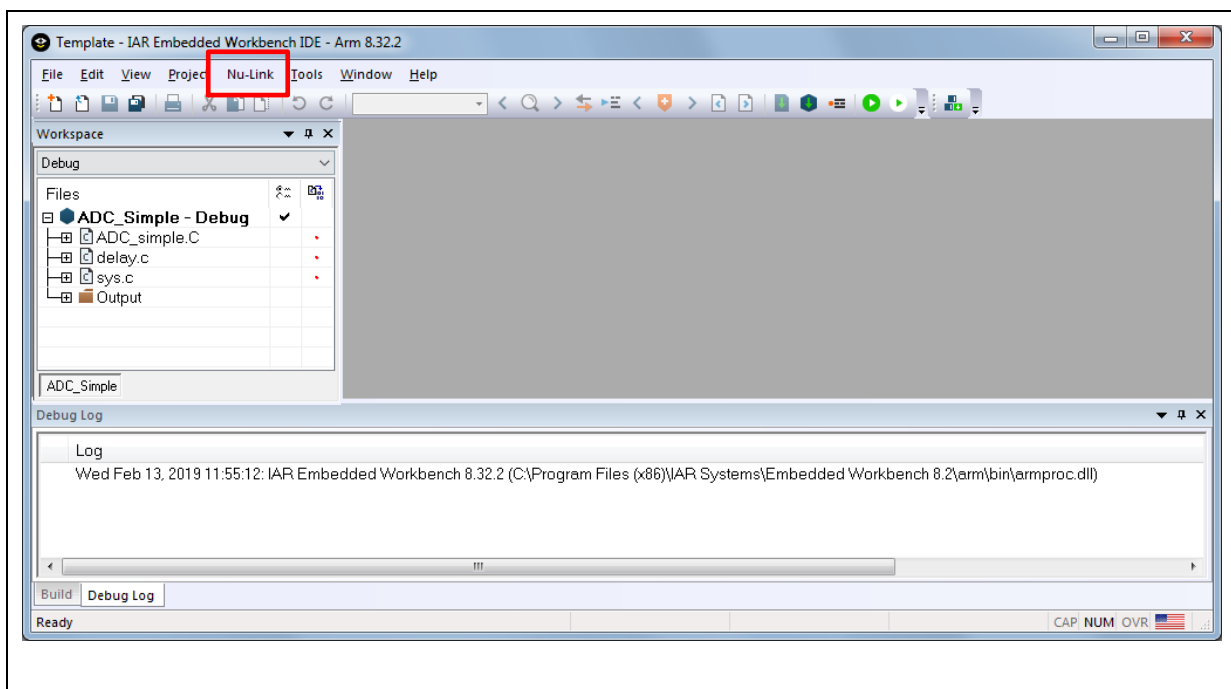

Figure 3.6-7 IAR EW8051 Window
2. Make sure the toolbar contain "Nu-Link" item as shown in Figure 3.6-7.